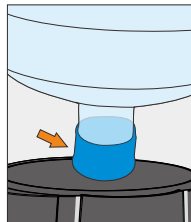

Figure 7
- Note: To prevent water leaks, a NON-SPILL Bottle Cap MUST be installed on the bottle (Figure 7).**